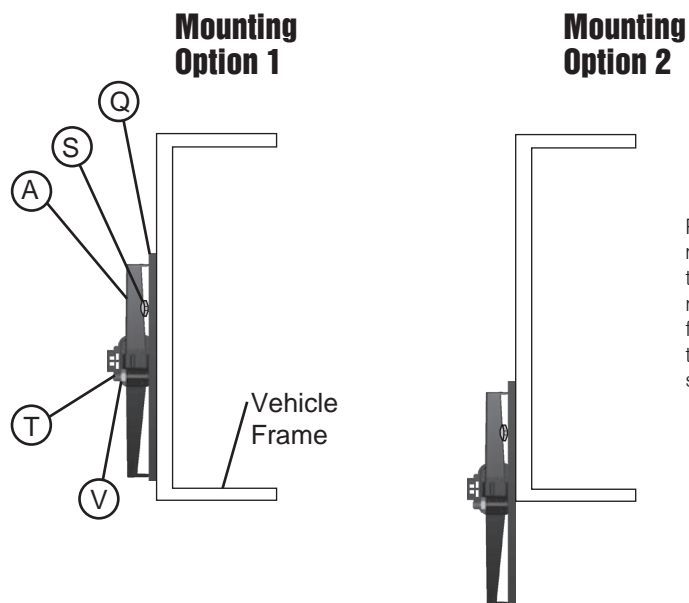

fig. 3
- Choose a mounting location along the frame rail for the height bracket and sensor. (Fig. 3)
- Use the self-tapping screws (S) to mount bracket to the frame at the chosen location. (Fig. 3)